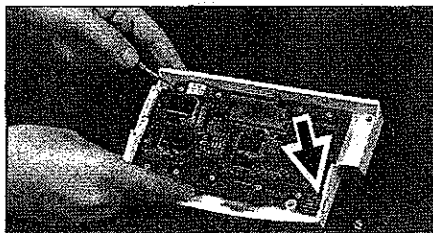

Figure 32
3. Remove the four (4) 4-40x1/4" Phillips pan-head screws which attach the display PCB/LCD assembly to the bezel top. Separate the display PCB/LCD assembly from the bezel top by gently pulling up on the display PCB corners as illustrated in Figure 32. Take care to retain the two o-rings on the temperature jack of the display PCB (arrow in Figure 32).